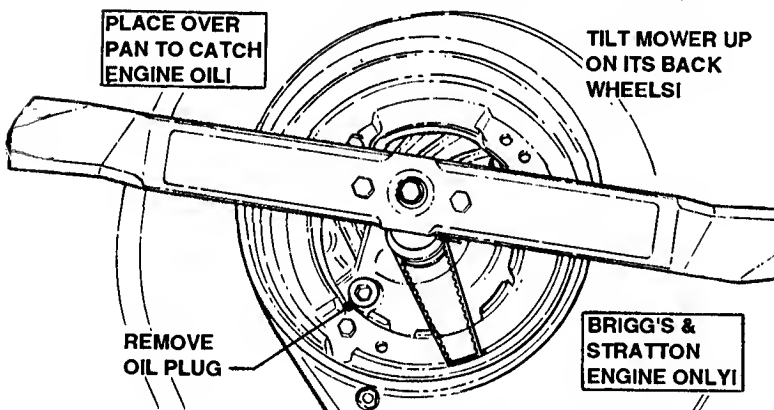

FIGURE 3.1
1. Tilt mower up on its back wheels to remove oil drain plug from underneath. See Figure 3.1.